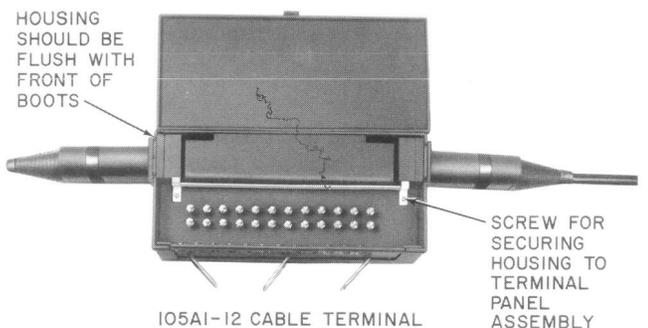

Fig. 17—Housing Installed
- (6) Install terminal panel assembly in housing assembly aligning housing with slots in cable boots. Secure with screws (Fig. 17).
- (7) Close door and secure with snap catch.